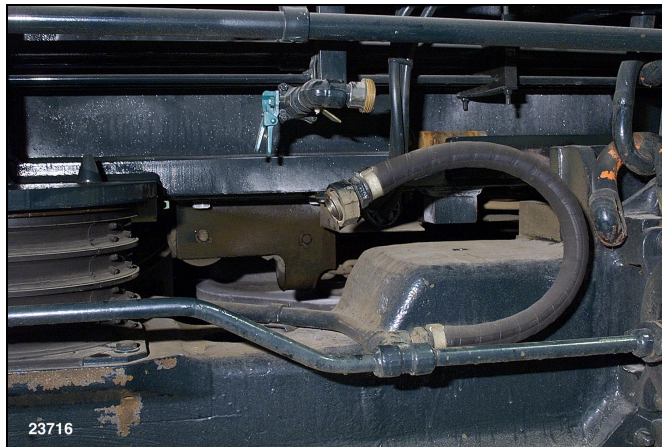

Figure 66 – Typical Air Brake Piping (HTCR Shown)
8. Connect carbody air piping to bogie air piping, Figure 66.